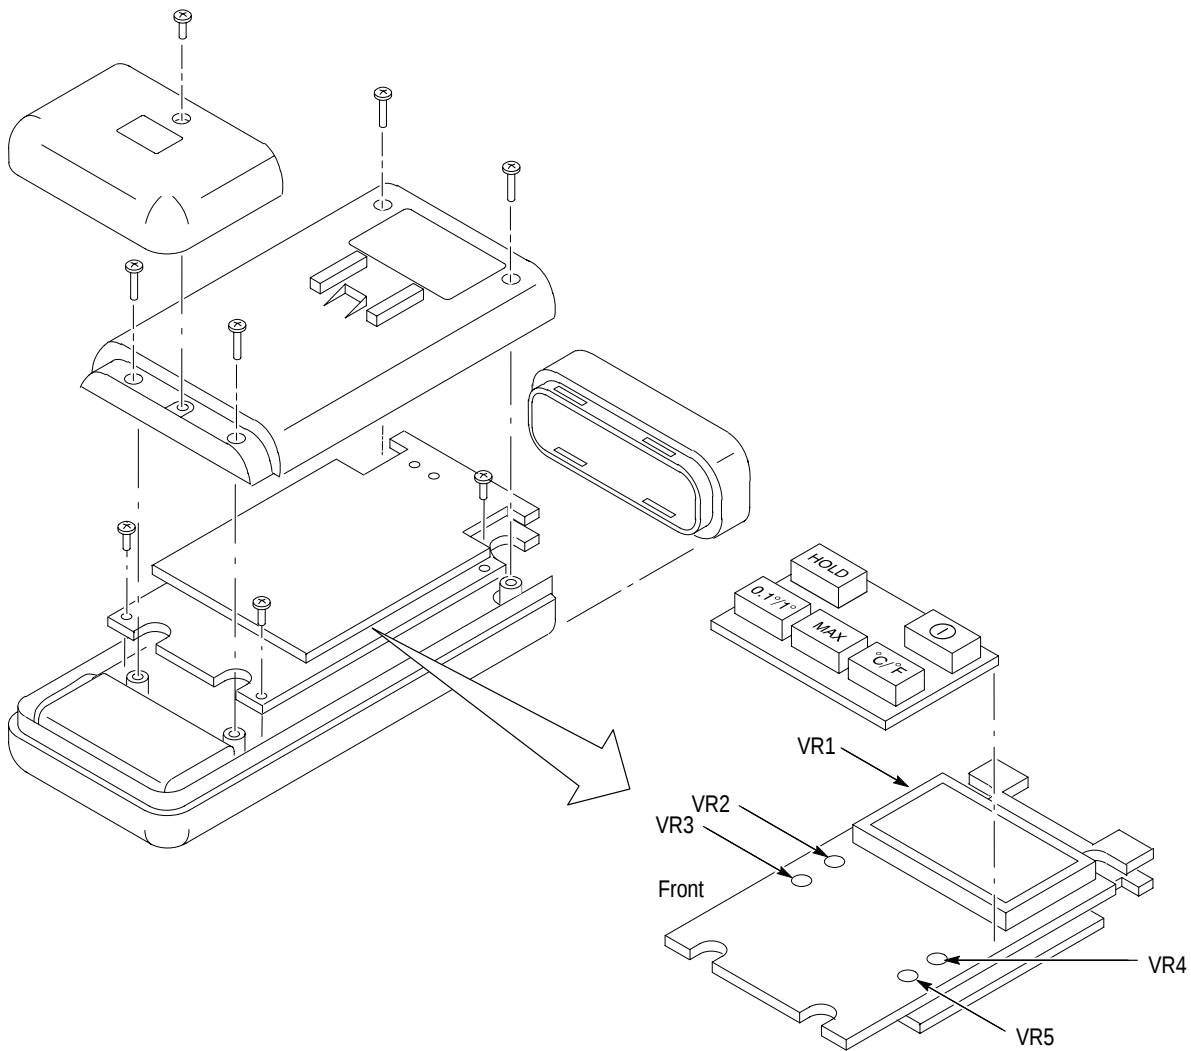
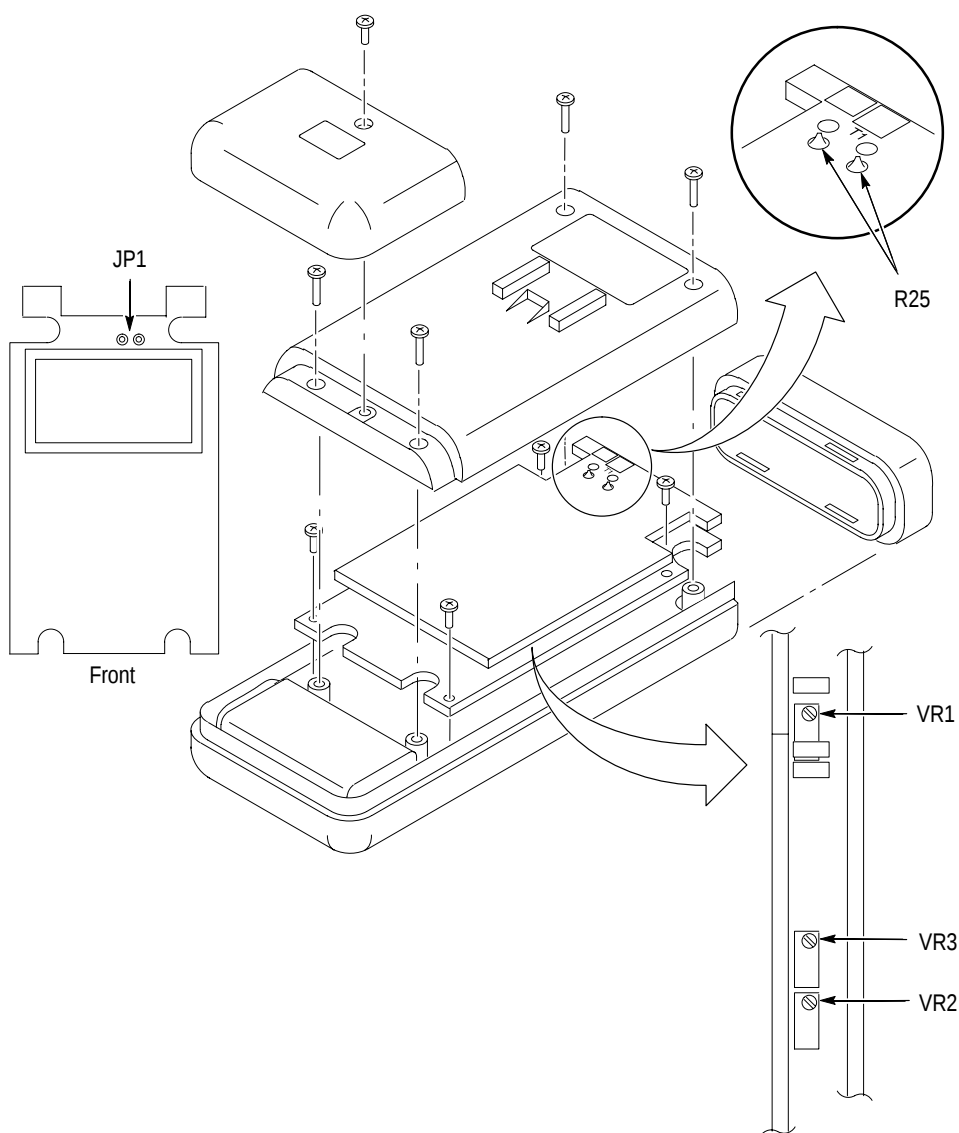

Figure 2: DTM510 Thermometer Disassembly and Adjustment Locations
Figure 3: DTM520 Thermometer Disassembly, Test Points, and Adjustment Locations
To make internal adjustments, you must open the thermometer case and remove the circuit board (see Figure 2 or Figure 3).
5. For each row in Table 7, set the thermometer and simulator as shown; then adjust the specified test point until the displayed temperature is within the proper limits. Figure 2 shows the location of the adjustment points.
This section describes how to adjust the DTM520 thermometer. To properly adjust the thermometer, perform the following steps in sequential order. Figure 3 shows the location of the test and adjustment points.